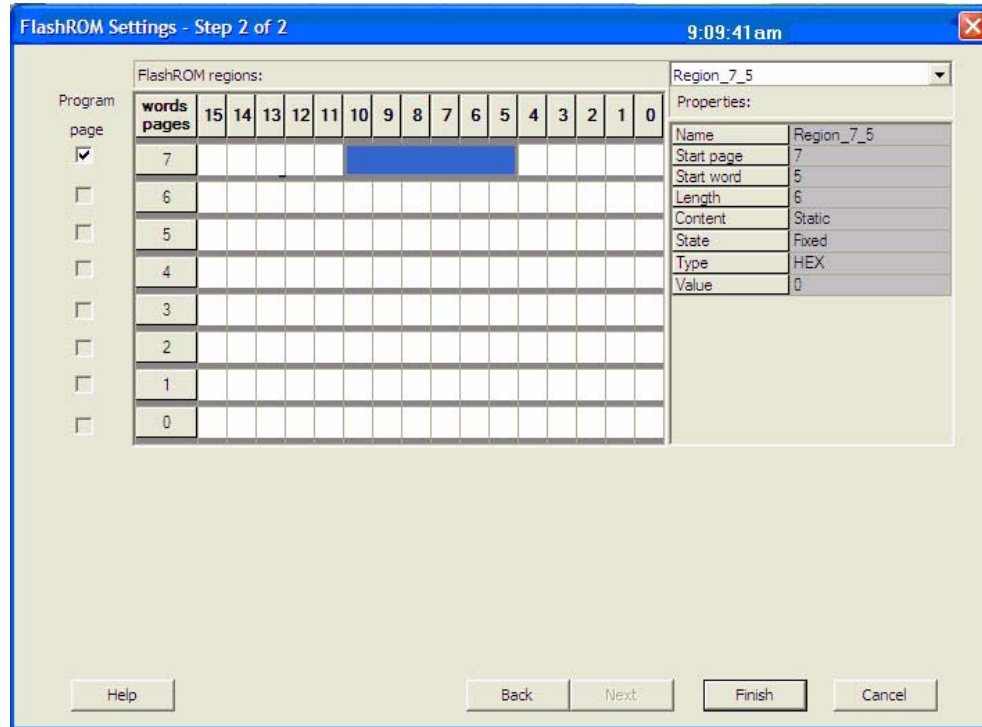

Figure 17-13 • FlashROM Configuration Settings for Low-Power Flash Devices
- Choose the desired settings for the FlashROM configurations to be programmed (Figure 17-13). Click **Finish** to generate the STAPL programming file for the design.